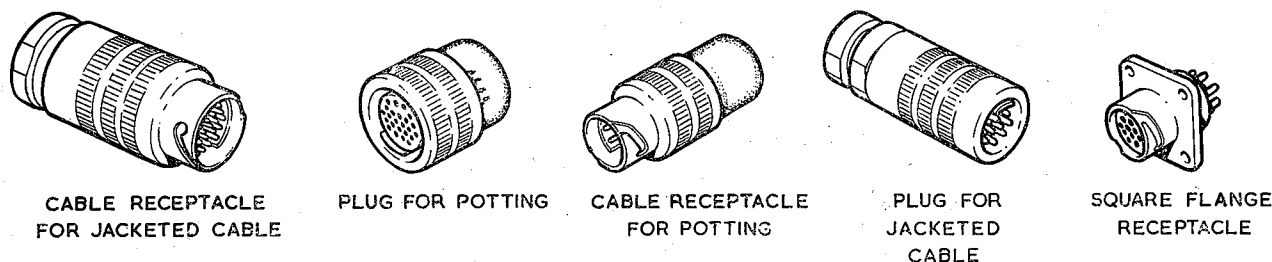

Fig. 1. Shell styles
1. The range of Amphenol connectors in the 165 Series (fig. 1) covers multi-contact miniature connectors of the quick-disconnect bayonet-lock type. The connectors are available as plugs, and cable and panel receptacles. Two shell sizes between them cover eight insert configurations with up to twenty-four contacts. Shell styles comprise plugs and cable mounting receptacles with cable sealing clamps for jacketed cable and panel mounting receptacles with exposed solder pockets. Cable mounting receptacles and plugs can be provided with facilities for potting to meet the pressure seal requirements of MIL-C-5015 Class C construction.